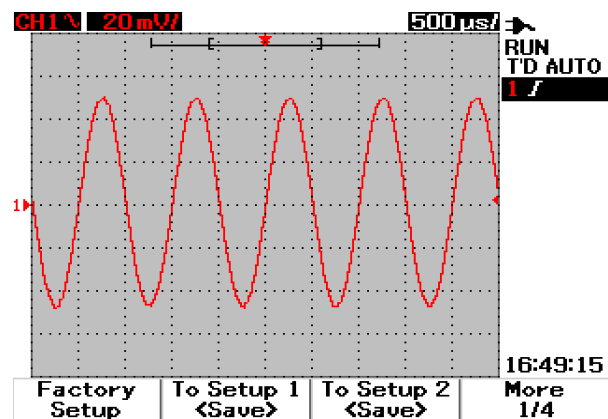

Figure 3-40 The <Save> display indicates no setup file is being saved. You can press F1 to save the setup into Setup 1.
- 5 Press the F1 again to load the Setup 1 from the internal memory, refer to Figure 3-40.